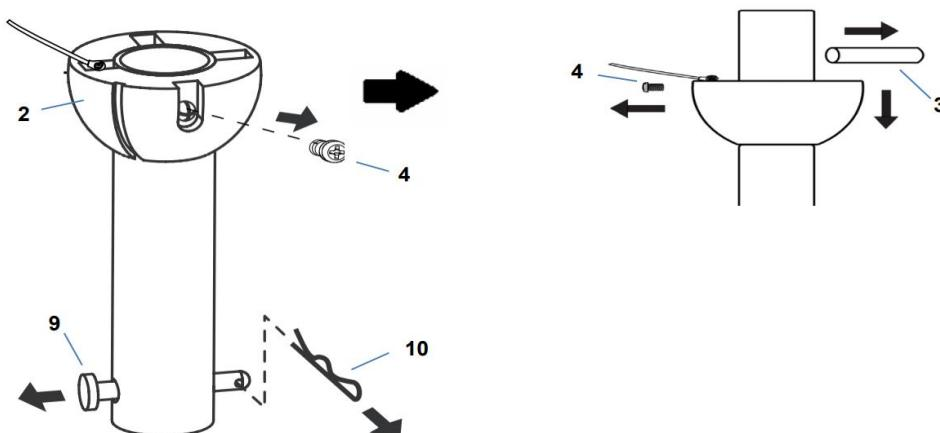

Fig. 6.1
1. Remove the ball joint (2) and dowel pin (3) by loosening the set screws (4) from the down rod (6). Remove the hitch pin (9) by removing the lock clip (10). **NOTE: Do not discard keep these parts, they are required to reassemble later.** (Fig. 6.1)